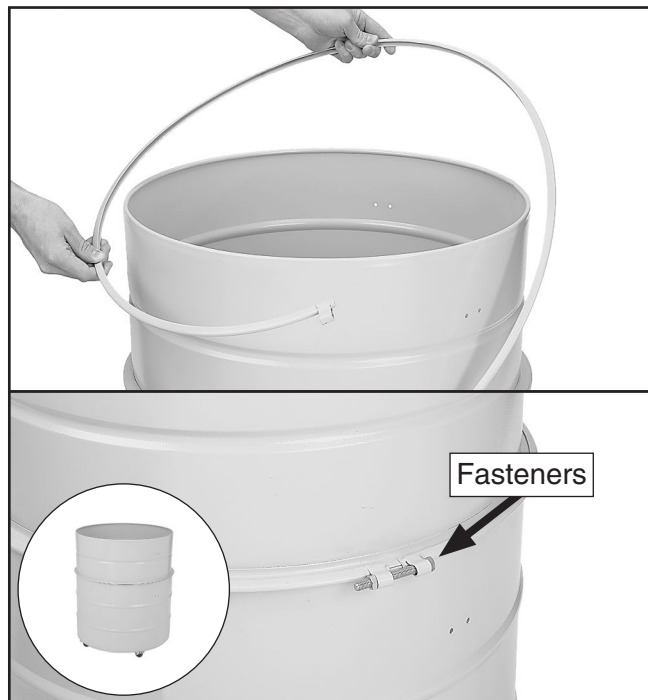

Figure 25. Installing metal clamp around collection drum.
15. **Model G0441:** Connect the upper and lower collection drums together and secure them with the included metal clamp and provided fasteners, as shown in **Figure 25**.